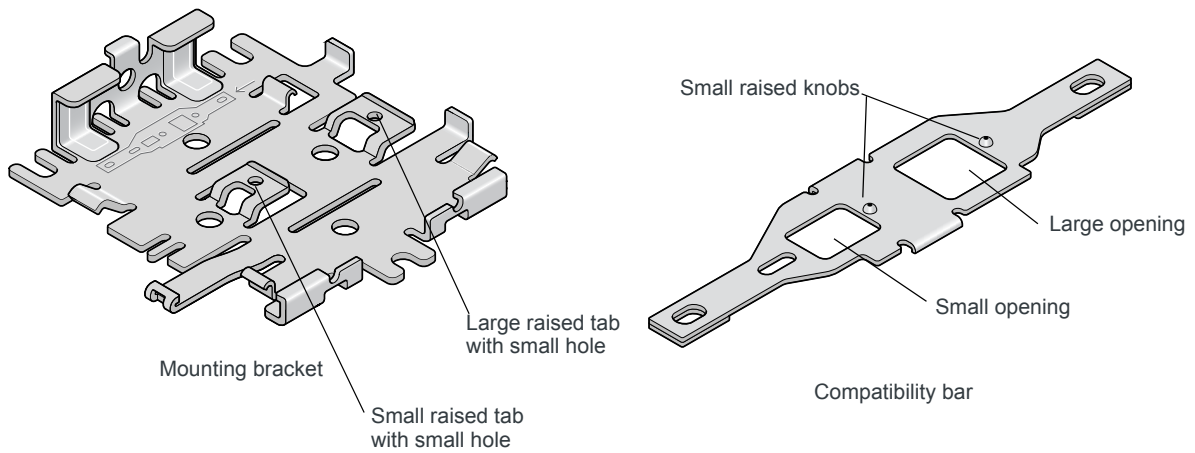

Figure 2-6: Mounting bracket and compatibility bar
1. Note the large and small raised tabs on the bracket. Each tab has a small hole in the center of the raised portion. Also note the large and small rectangular openings in the compatibility bar. See Figure 2-6.